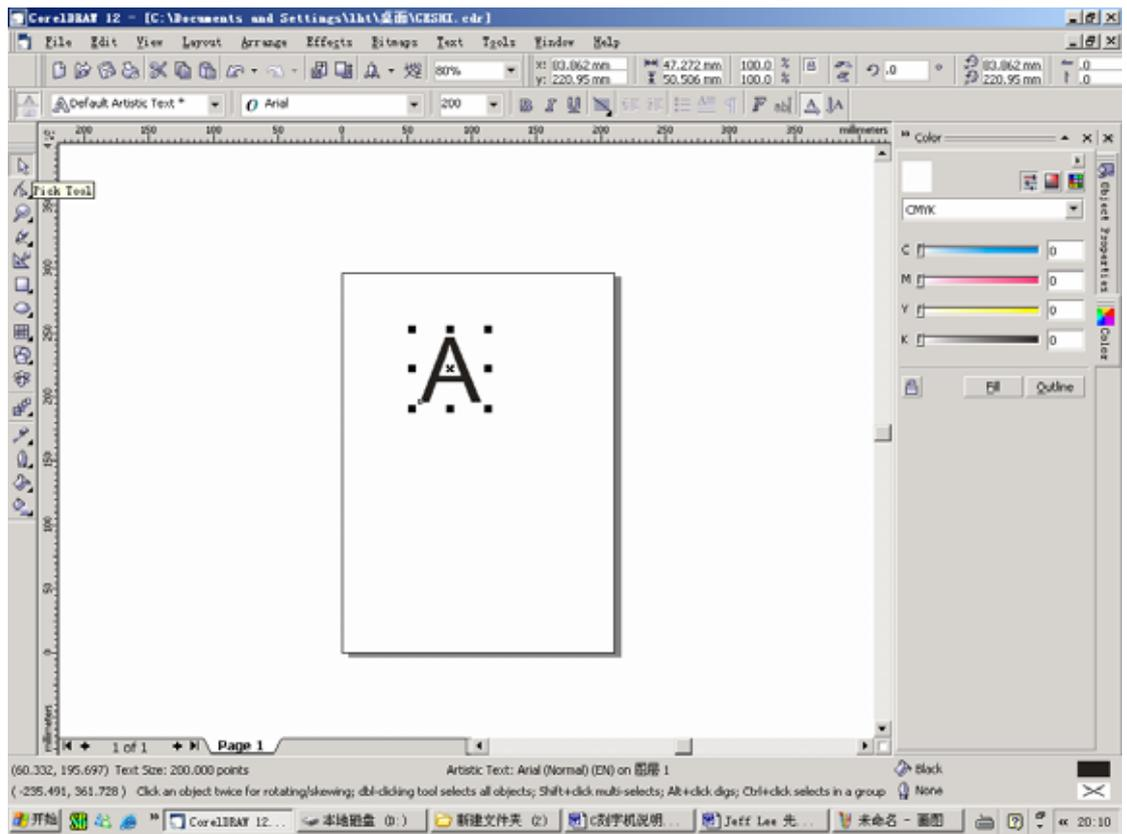
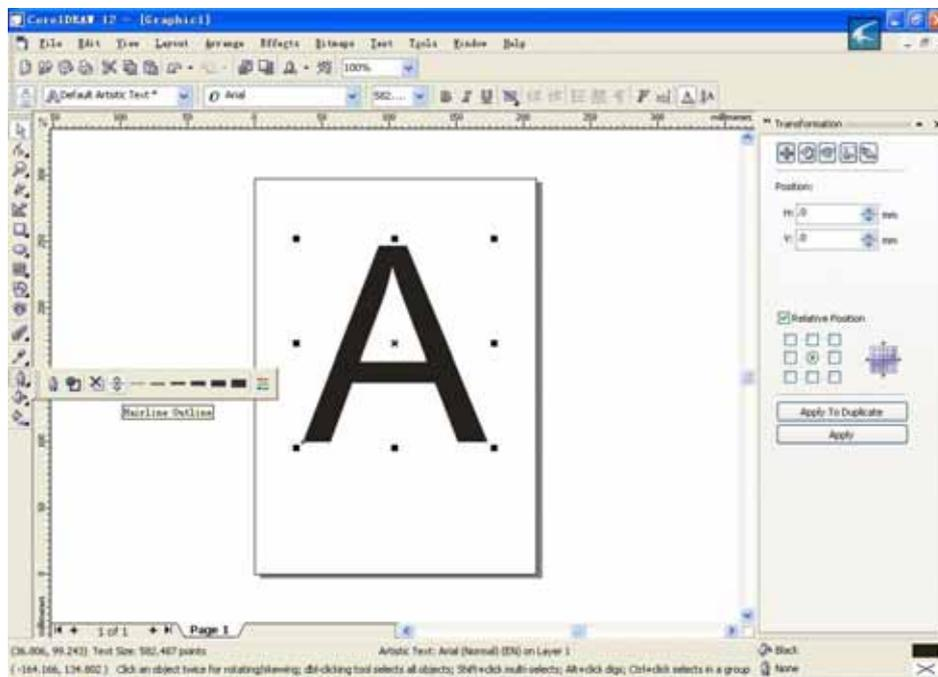
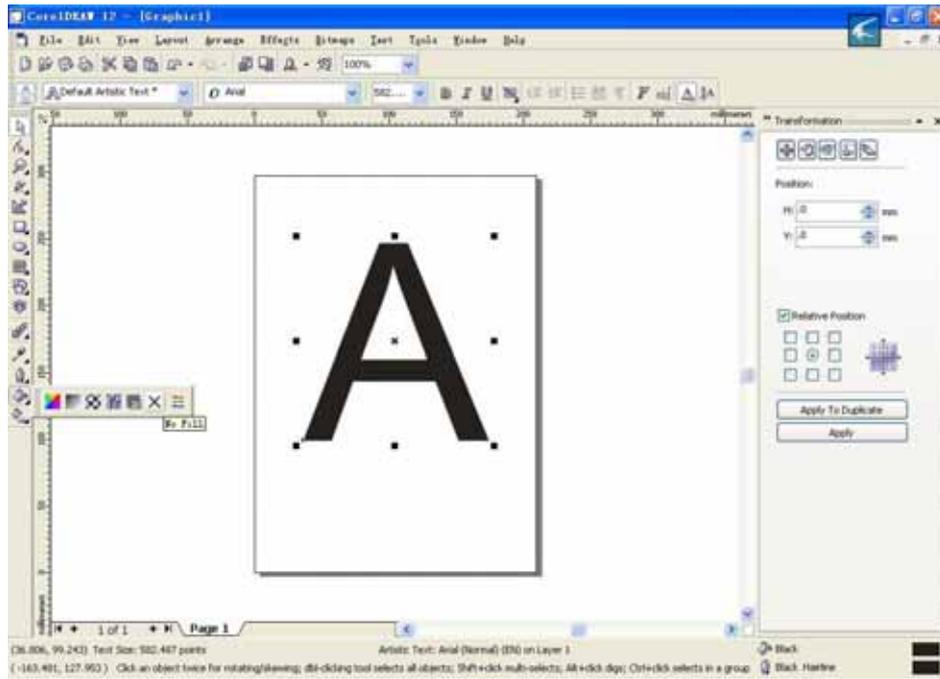
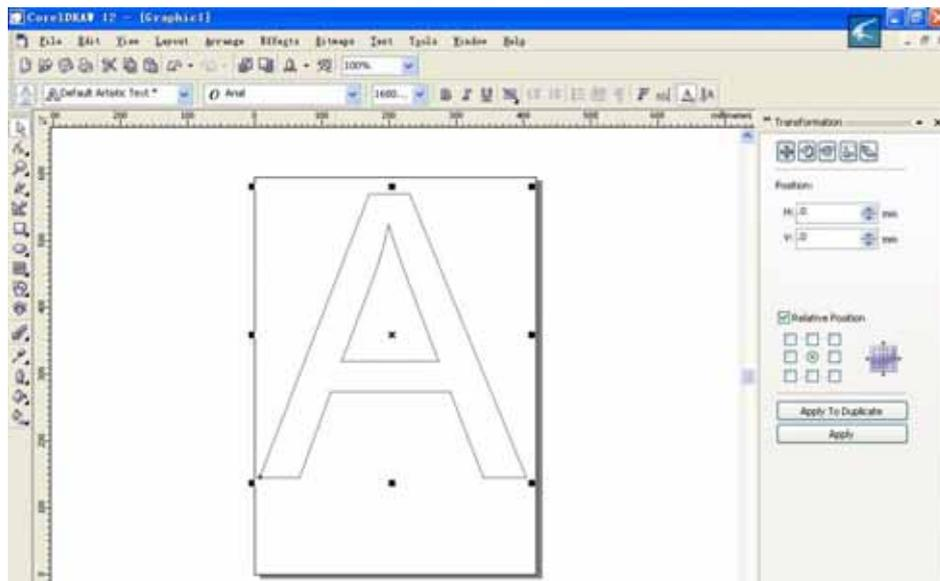

Figure 7
Figure 8
Figure 9
Figure 10
Step 6: Open CORALDRAW, write a letter A. **As figure 7, click PICK TOOLS on tool bar (note that it's the first button, but not the second).** Select Hairline Outline, shown as Figure 8. Finally select NO FILL, shown as Figure 9, the result shows in figure 10. **Please note that letter A shall be NO FILL as figure 10, but not fill as figure 9.** If you are unable to see if the letter is filled or not, zoom in the letter. If the letter is still filled after zoom in, it indicates the operation is incorrect. You need to resume Step 6. **If letter A is filled, it might cause the problem you mentioned – the file has been sent but cutter does not work at all.**